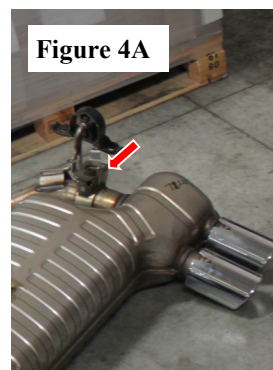

Figure 4A
5. Remove right-side electronic actuator from factory exhaust and transfer to your new Borla exhaust using factory hardware. (See Figs. 4A & 4B)